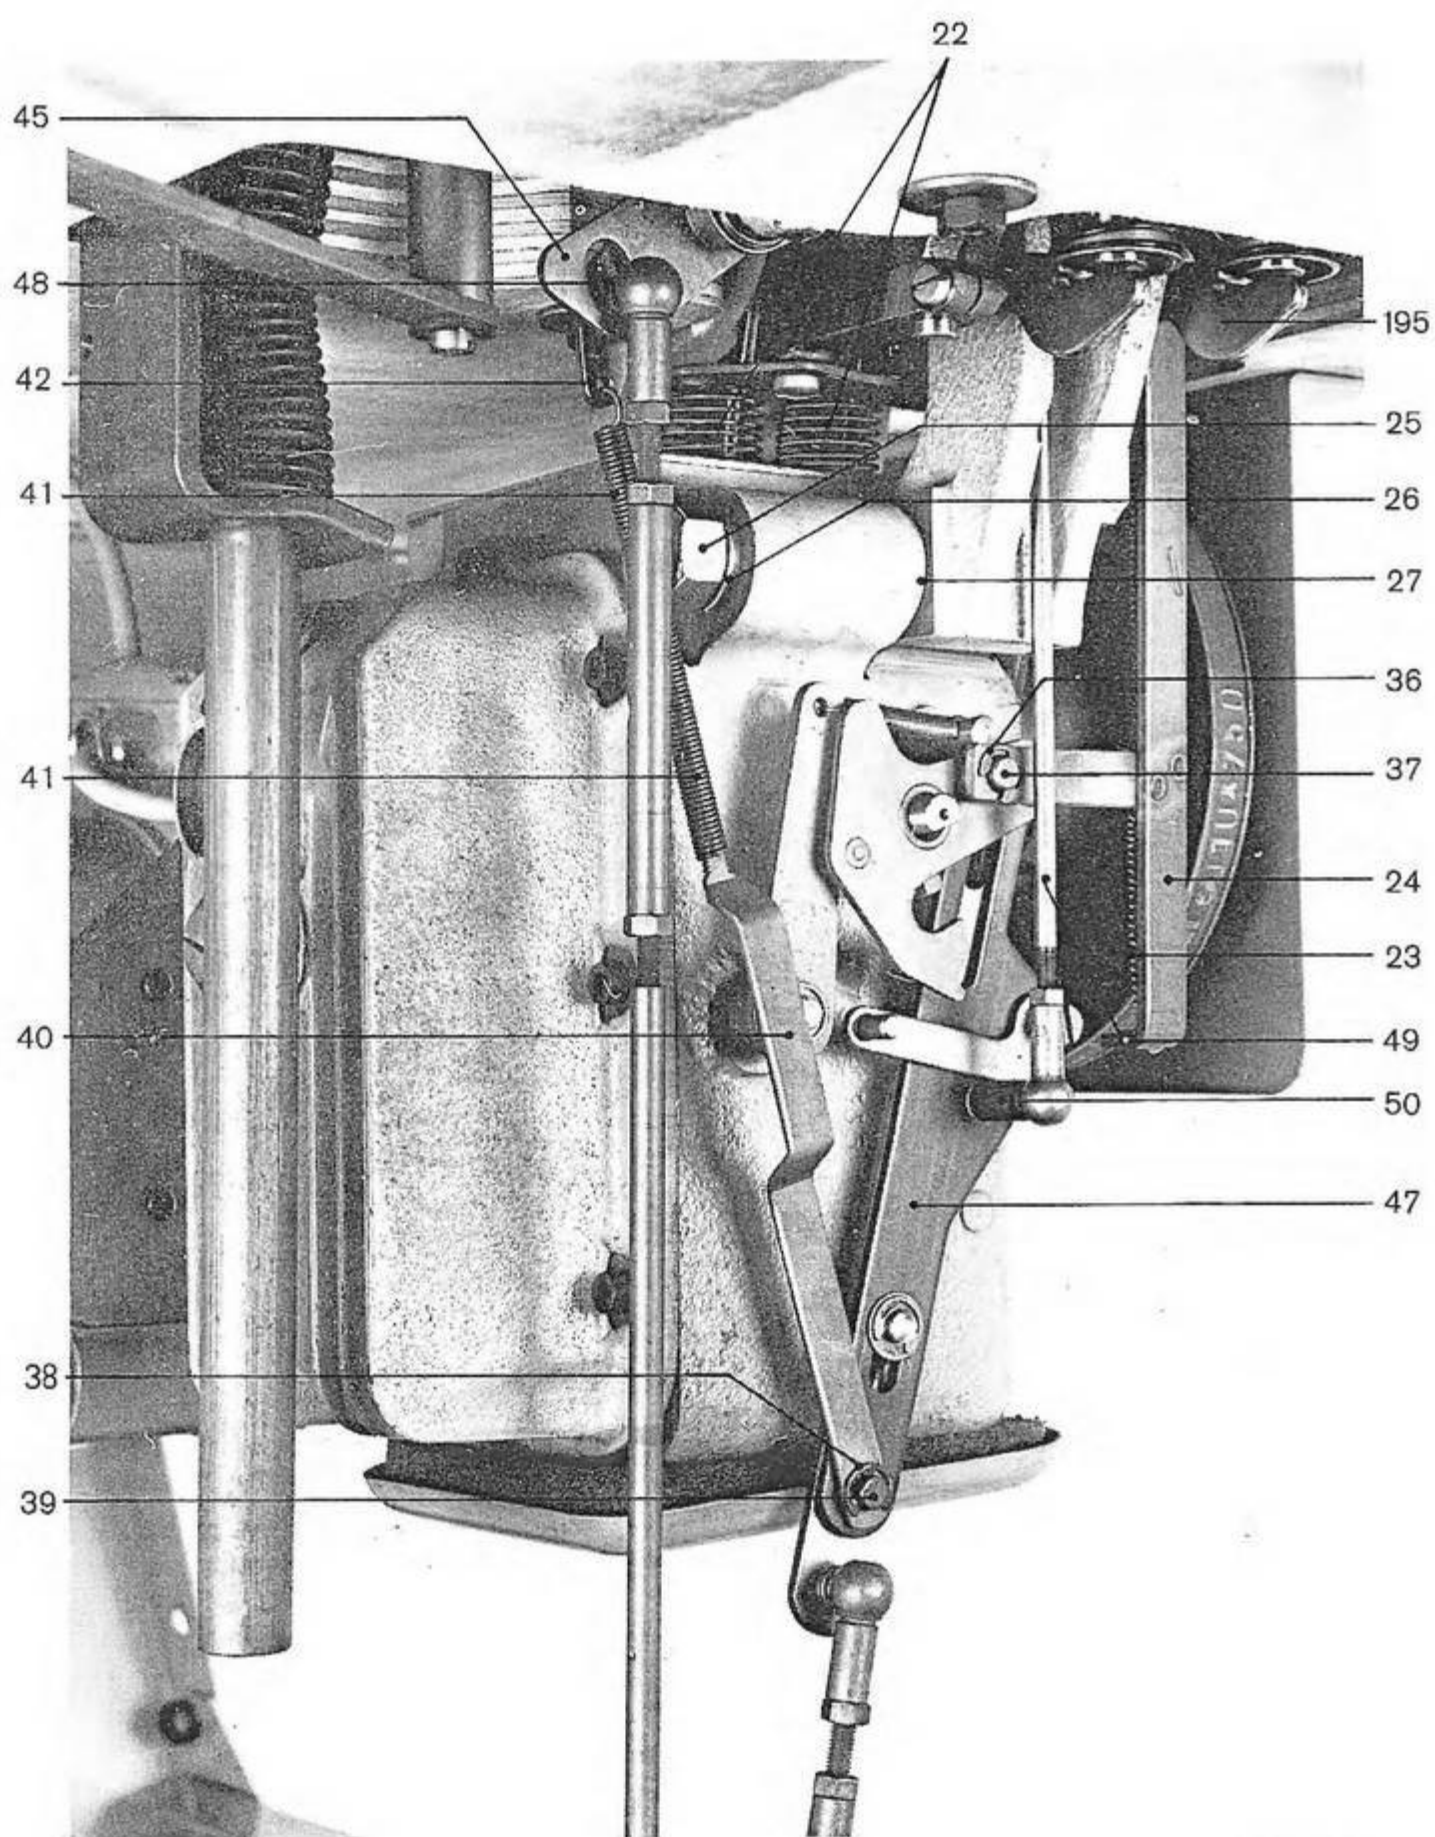

Fig. 10
5. Remove the spring 23 (fig. 10) from the part 24.
7. Remove from the bearing bolt of the control gearing unit on the base the nut 25 (fig. 10) and the spring washer 26.
10. Swing the control gearing unit into its vertical position. Push to this effect the angular lever upwards. Slip the spring washer 26 (fig. 10) on the bearing bolt and tighten the nut 25.
14. Remove the safety ring 36 (fig. 10) and slip pulling lug 24 on the bolt 37. Slip the safety ring in the position and hang-in the traction spring 23.
15. Remove the safety ring 38 (fig. 10) from the bolt 39 and slip the pulling lug 40 onto the bolt. Replace the safety ring 38. In older machines: hang-in the spring 41 in the lever 42 and adjust so that in the lower position of the front pulling lug 47 the ball pin 48 also is in the lowest position in the oblong hole of the lever 45.
17. Pass the bar 49 (fig. 10), serving to avoid the knife action, through the hole in the base and fasten it on the ball pin 50.
23. Check whether the ball pin 48 (figs. 10 and 10a) rests at the lowest point in the longitudinal hole of the lever 45 when the pulling lug 47 is at its lowest point. Regulate for this purpose the spring and the ring 42a.